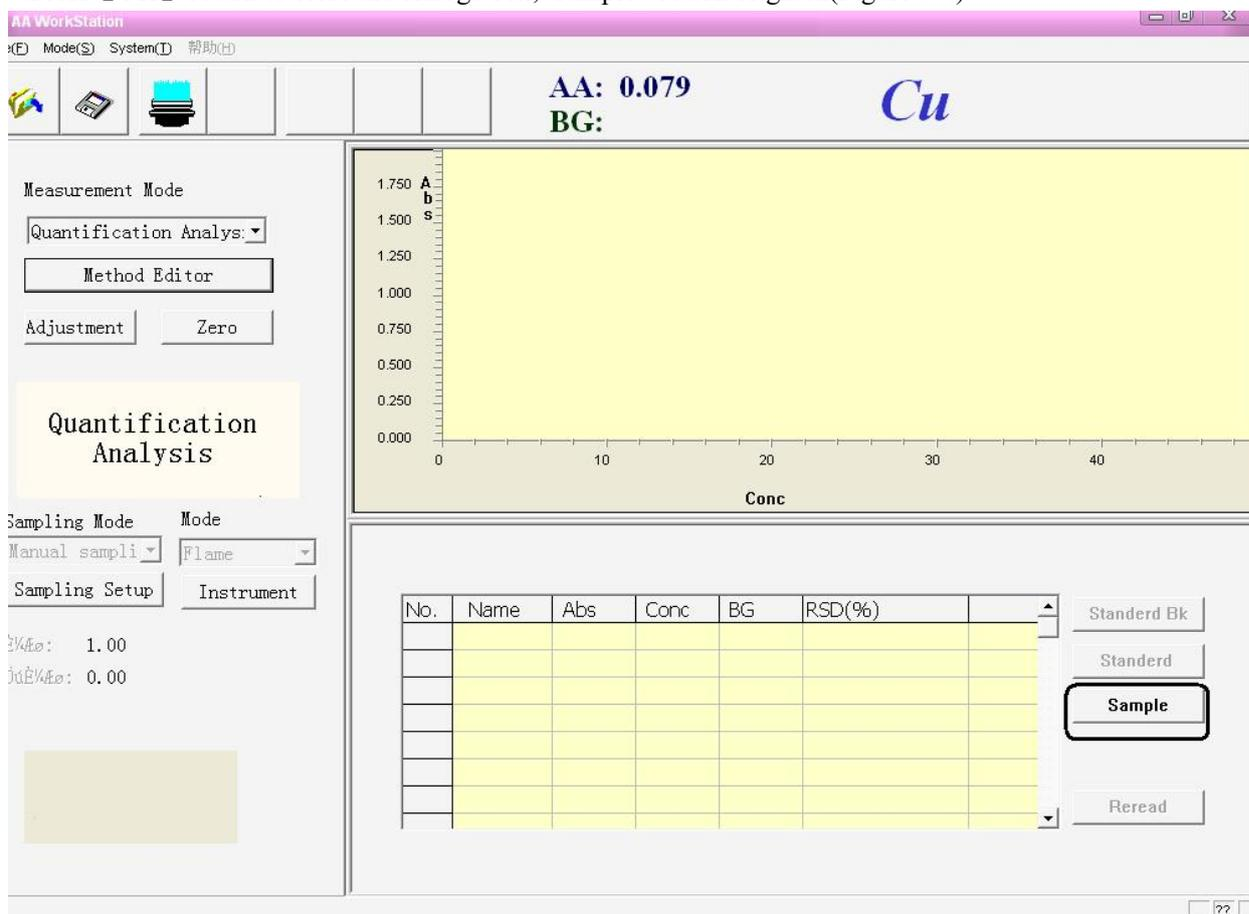

Figure 5-4
8. Press **【OK】** button to close the dialog box, "Sample" button brighten (Figure 5-4)